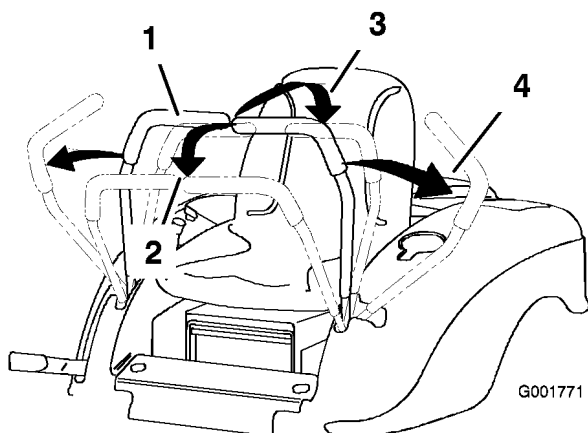

Figure 11
2. To go forward, slowly push the motion control levers forward (Figure 11).
To go straight, apply equal pressure to both motion control levers (Figure 11).
To turn, release pressure on the motion control lever toward the direction you want to turn (Figure 11).
2. To go backward, slowly pull the motion control levers rearward (Figure 11).
To turn, release the pressure on the motion control lever toward the direction you want to turn (Figure 11).